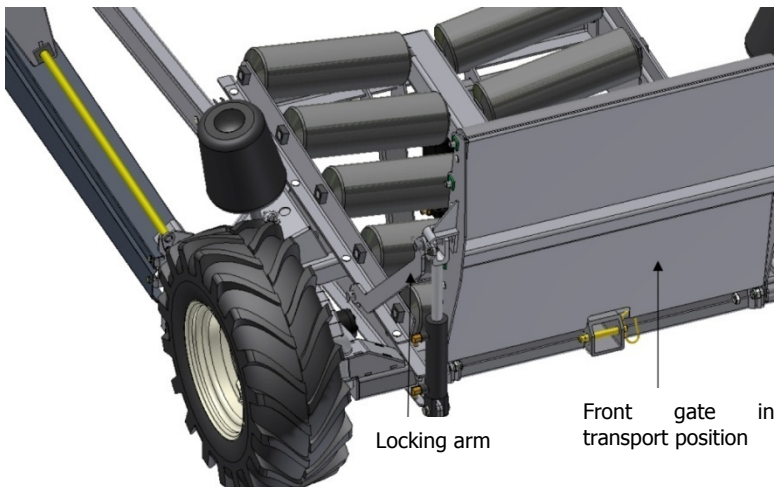

Figure 7 – Raising the front gate and locking into transport position
1. Raise the tailgate (Figure 7) all of the way with the joystick (Figure 2).
2. Raise the arm to lock the tail gate and insert the arm to keep the gate in the upright position (Figure 7).
3. Insert the pin to lock the arm in place (Figure 7).